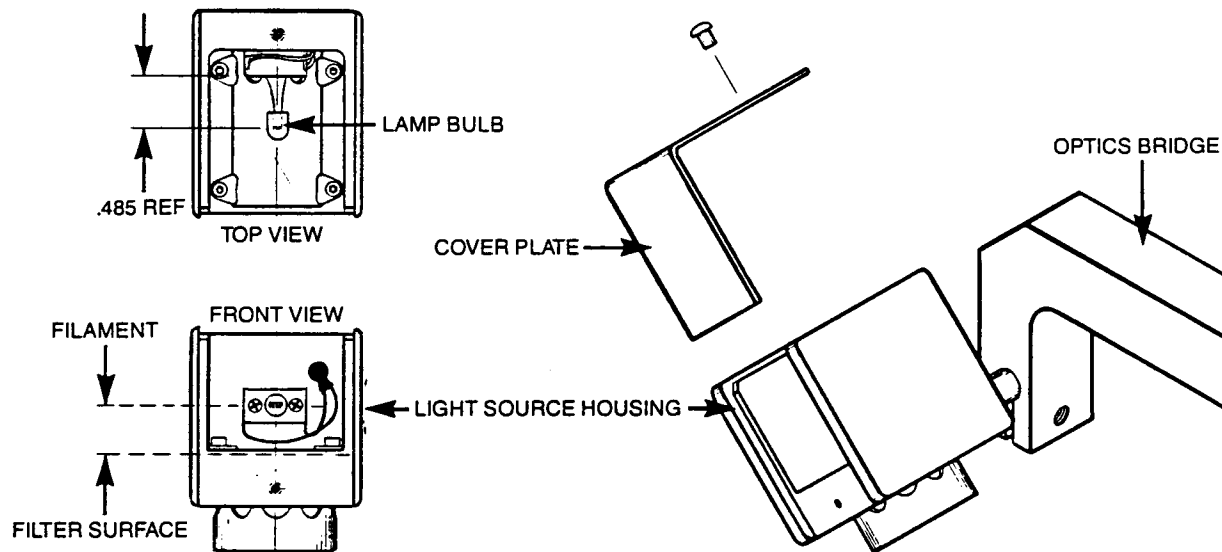

Figure 7-6. Illuminator Lamp Replacement
5. Place a new bulb in the socket and check the reference dimension. For optimum illumination, set the bulb filament parallel to the filter (see Figure 7-6). If the new lamp does not light, check the lamp wire connection at the rear of the optics bridge.